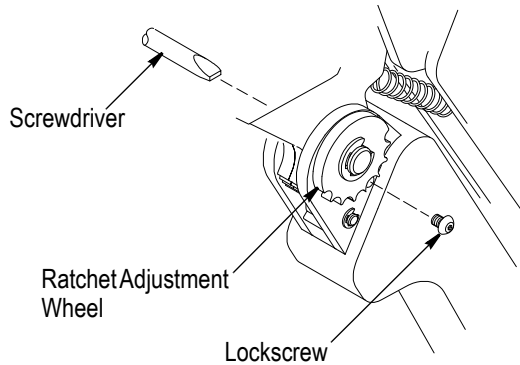

Figure 4
1. Remove the lock screw from the ratchet adjustment wheel. Refer to Figure 4.